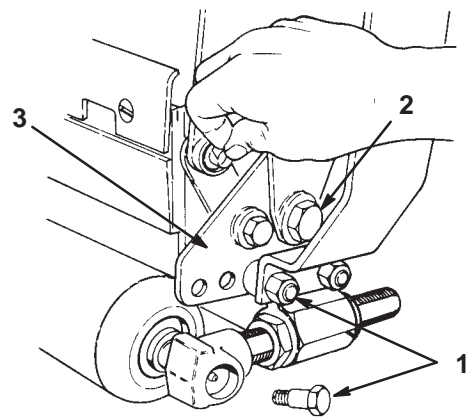

Figure 25
1. Remove the shoulder bolts, bushings, and spacers from each end of the unit and remove the bedbar/bedknife assembly (Fig. 25).